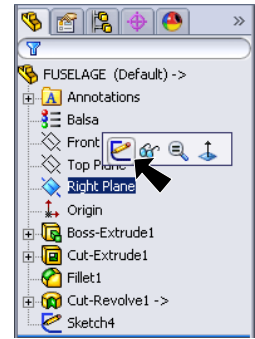

Fig. 32
Step 4. Click **Right Plane**  in the Feature Manager and click **Sketch**  from the Content toolbar, **Fig. 32**.